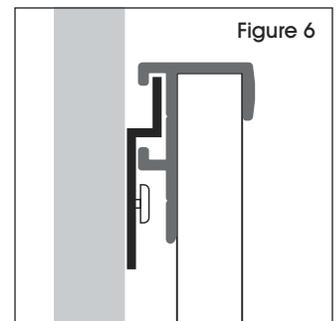

Figure 6
3. Holding the board at approximately a 15° angle, place the channel in the back of the frame over the wall hangers. Lower the board so it is flush to the wall. (See Figure 6)
3. En maintenant le tableau incliné à environ 15 °, placez la rainure au dos du cadre par-dessus les supports. Abaissez le tableau contre le mur. (Voir Figure 6)